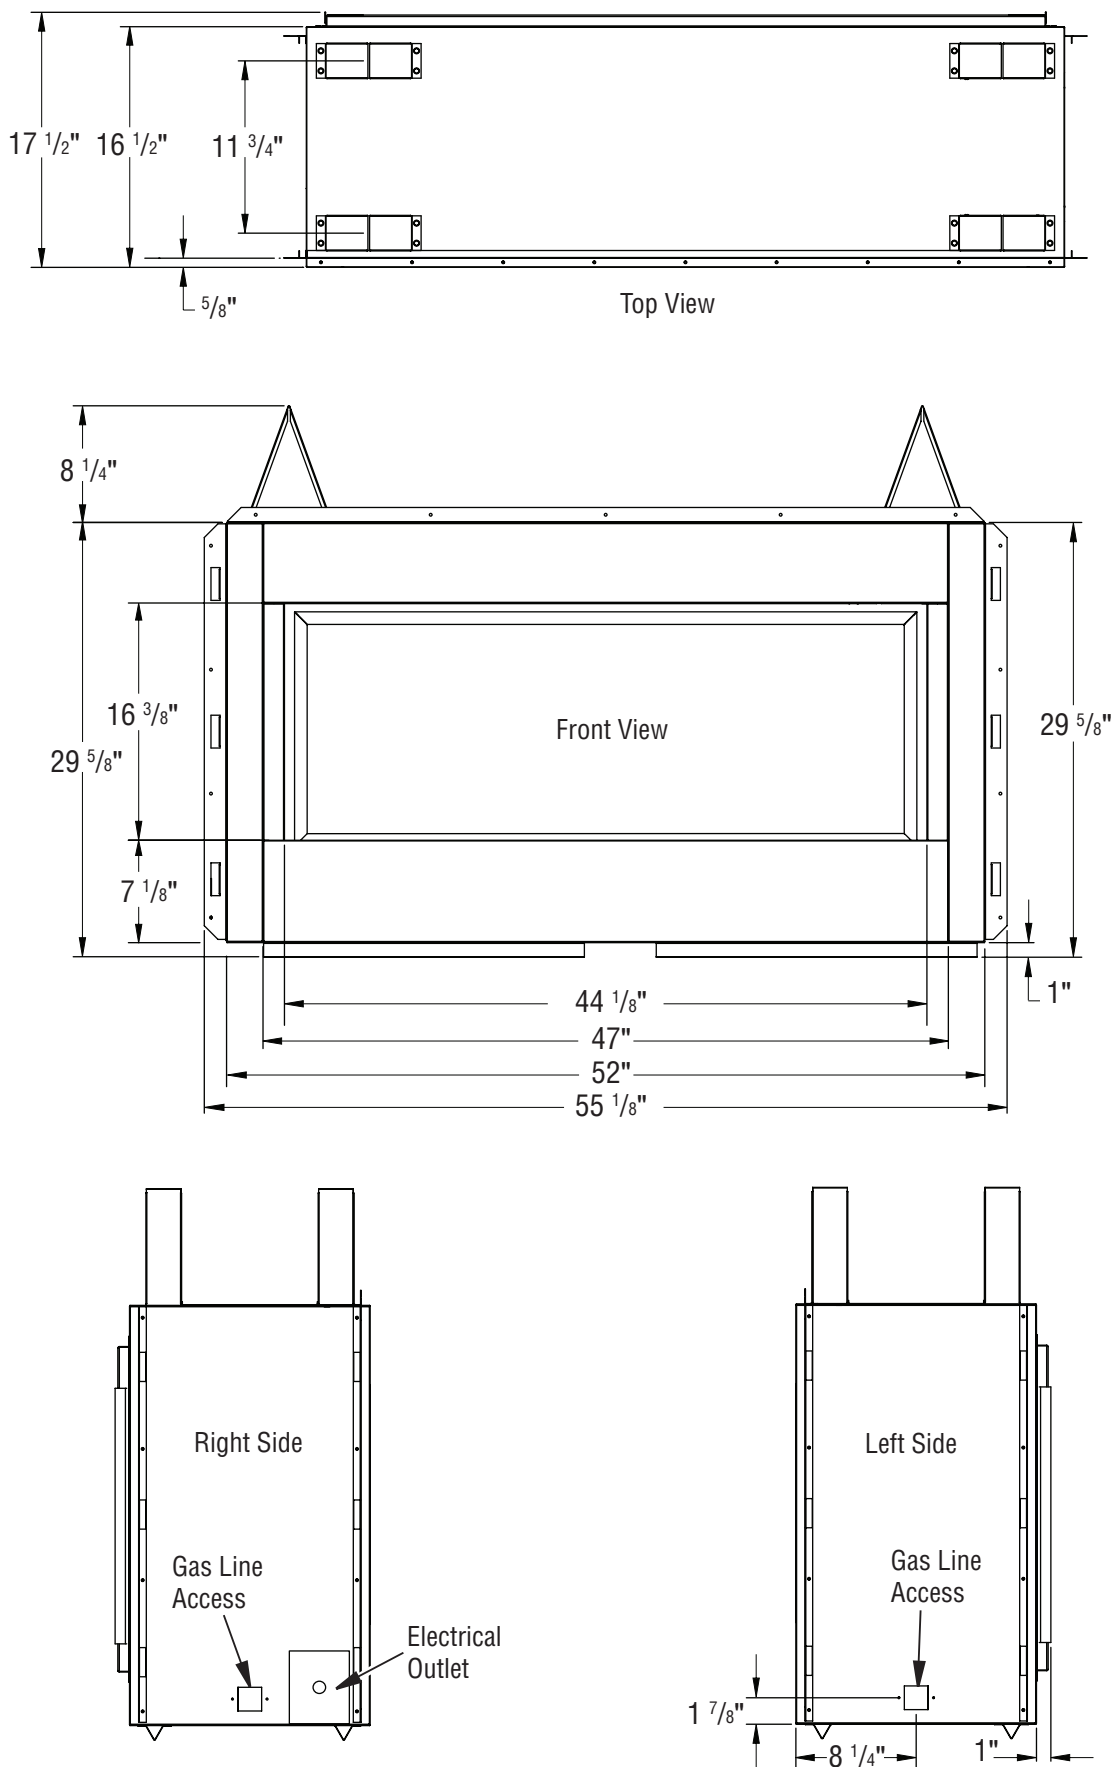

Figure 8 - VRL4543 Series Dimensions
*Please refer to overall fireplace width (**Figure 8, Page 10**) before rough framing construction.